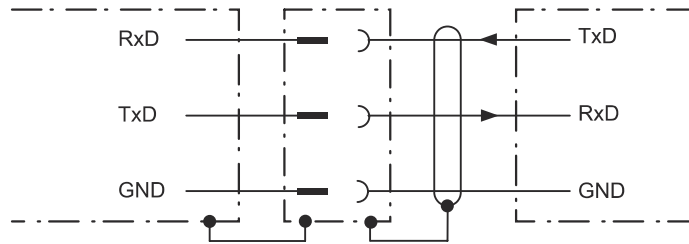

Figure 22: Wiring of the RS-232 interface
- ▶ Connect the computer (serial interface) to the device, see figure 22, page 42